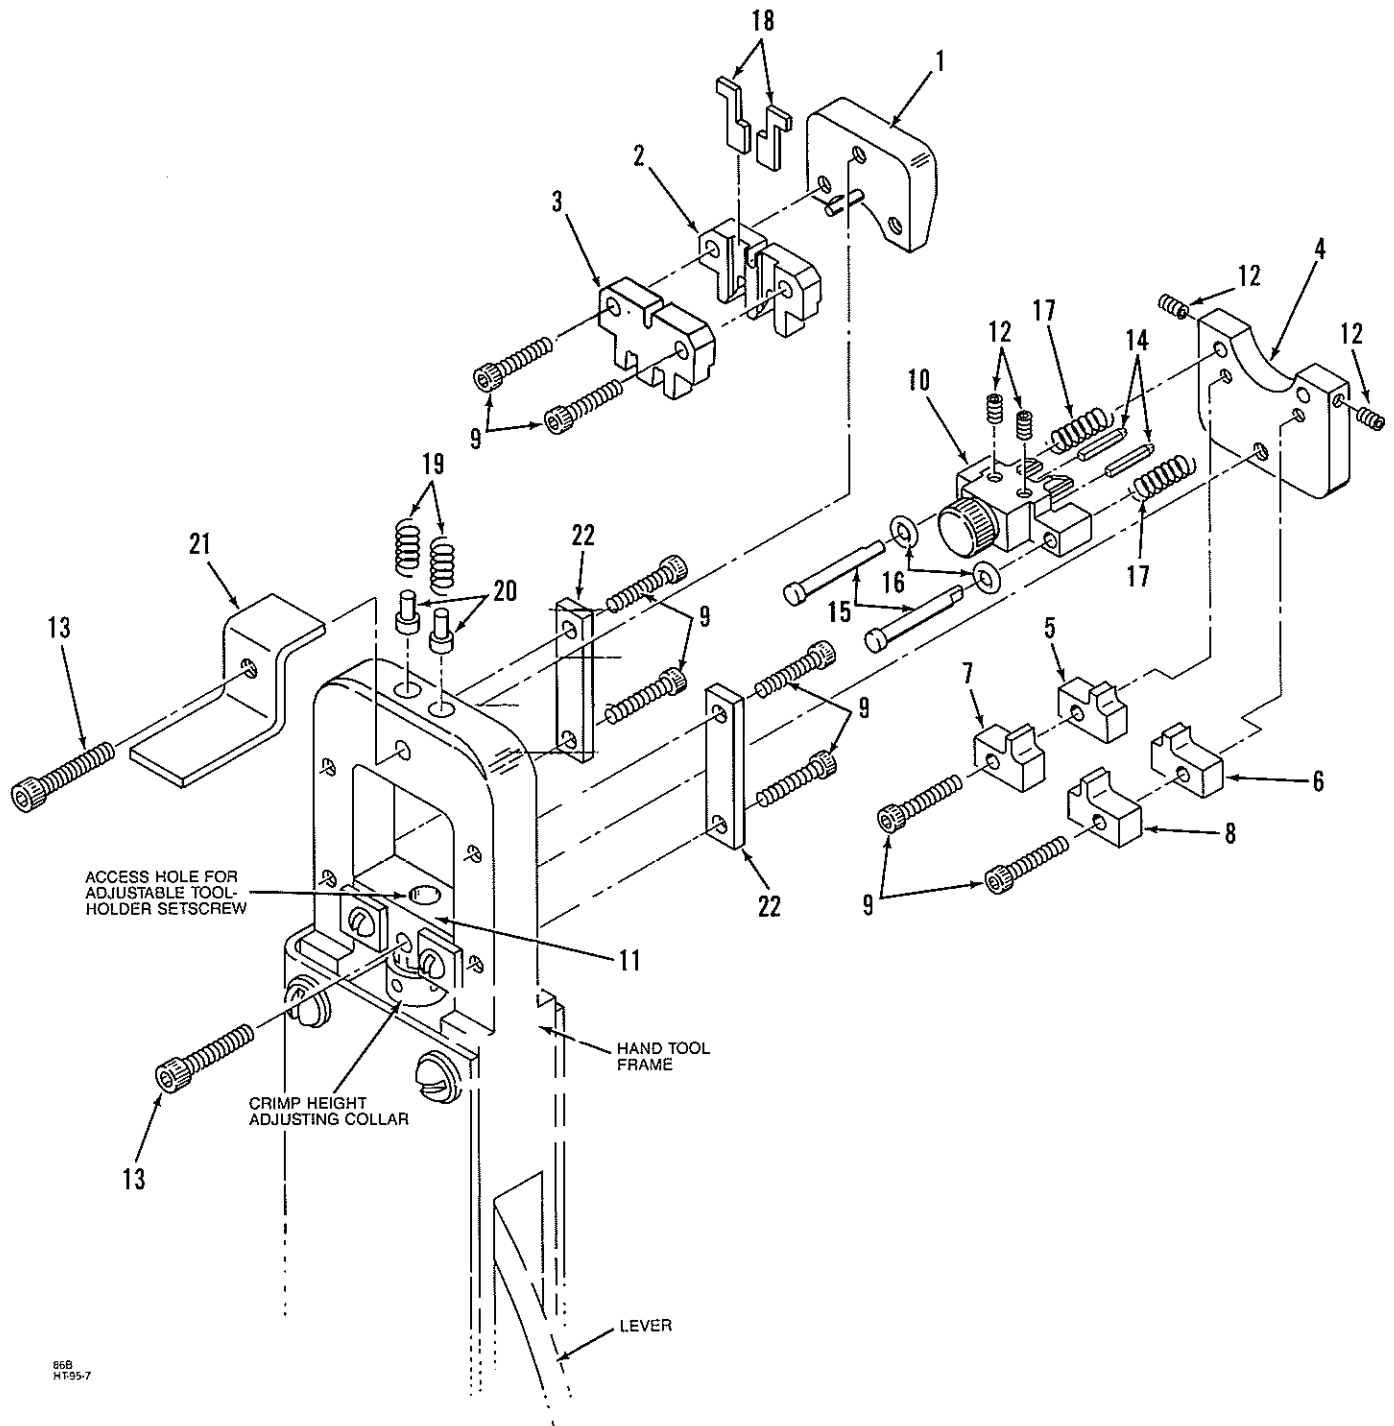

Figure 15. HT-95 Hand Tool Parts
## **B. Wire and Insulation Barrel Crimpers and Tonker Replacement** (see figure 15)
## C. Holding Pin Replacement (see figure 15)
These are parts which BERG considers practical for the user to stock for replacement. Recommended spare parts for the hand tool are specified in bold type in the parts list for figure 15.
*Parts List for Figure 15. HT-95 Hand Tool Parts*